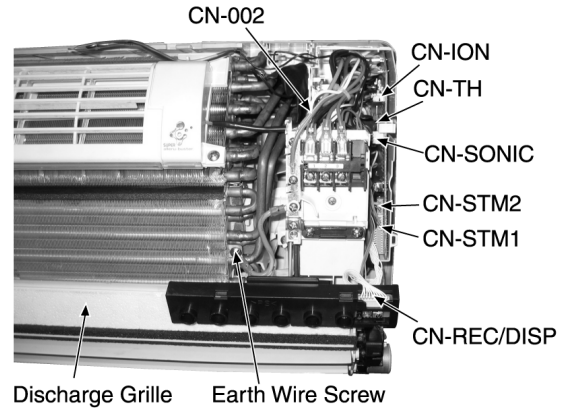

Fig. 5
- a. Release the Earth Wire screw. (Fig. 5)
- b. Release the CN-REC/DISP connector. (Fig. 5)
- c. Release the CN-002 connector. (Fig. 5)
- d. Release the CN-ION connector. (Fig. 5)
- e. Release the CN-TH connector. (Fig. 5)
- f. Release the CN-SONIC connector. (Fig. 5)
- g. Release the CN-STM2 connector. (Fig. 5)
- h. Release the CN-STM1 connector. (Fig. 5)
- i. Pull out the Drain Hose from outlet to remove the Discharge Grille. (Fig. 5)